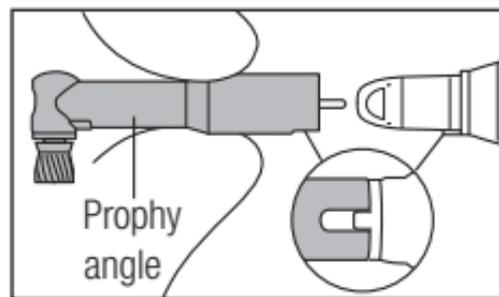

Fig. 6
- 2 Align the prophy angle with the groove of the handpiece and insert it deep into the chuck. (Fig. 6)